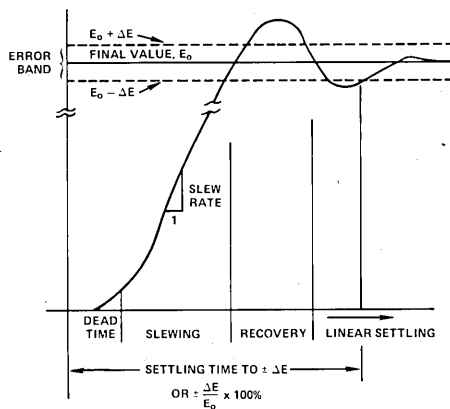

Figure 5. Typical Settling Time Characteristics
*Settling time* is defined as the time elapsed from the application of a perfect step input to the time when the amplifier output has entered and remained within a specified error band symmetrical about the final value (Figure 5). Settling time therefore includes the time required for the amplifier to slew from the initial value, recover from slew rate limited overload, and settle to a given error in the linear range.